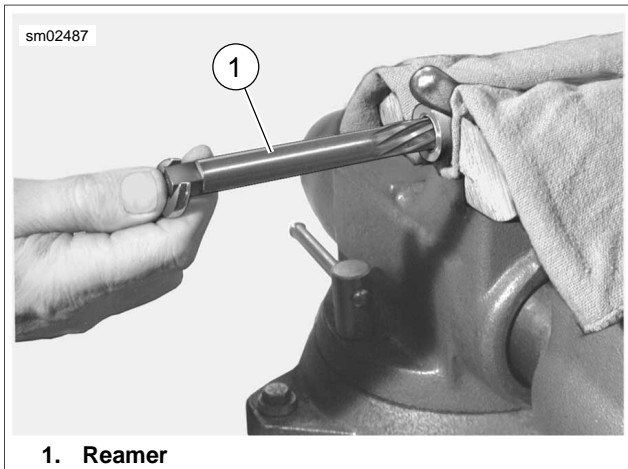

Figure 3-81. Ream Bushings
3. See Figure 3-81. Lock rocker arm in a vise using brass jaw inserts or shop towels to prevent casting damage. Insert tapered end of **ROCKER ARM BUSHING REAMER** (Part No. HD-94804-57) into old bushing in rocker arm. Note that old bushing on drive side of reamer as pilot. Rotate reamer until the **new** bushing on the far side is reamed, and then continuing in the same direction, draw drive side of reamer from **new** bushing.